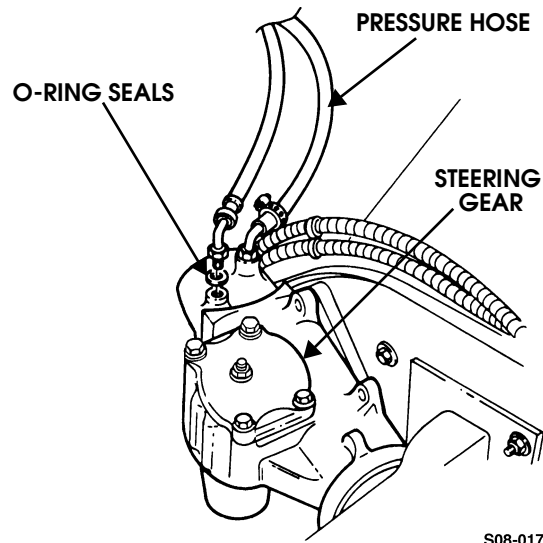

Figure 8-26: Power Steering Hose Replacement at Steering Gear
1. Connect pressure hose to steering gear and hydro-boost (Figure 8-26).